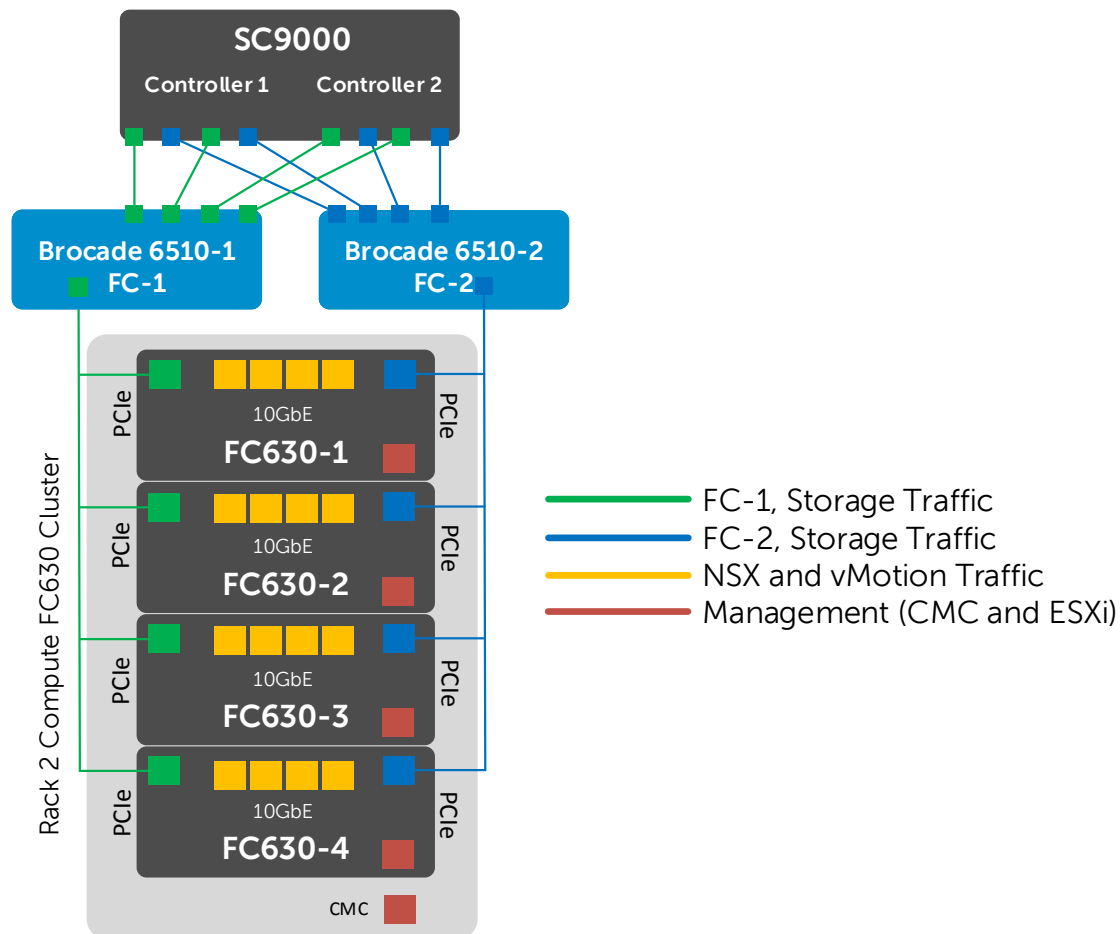

Figure 17 Rack 2 Compute FC630 Cluster FC SAN
- The FC SAN as shown in Figure 17.
Key vSphere features, such as vSphere High Availability (HA) and Distributed Resource Scheduler (DRS), require ESXi host clusters to be configured with shared storage. Shared storage can be provided by a variety of methods including an FC SAN, iSCSI SAN or VMware Virtual Storage Area Network (VSAN). The deployment example in this guide uses an FC SAN in the Rack 2 Compute FC630 Cluster, as shown in Figure 17.